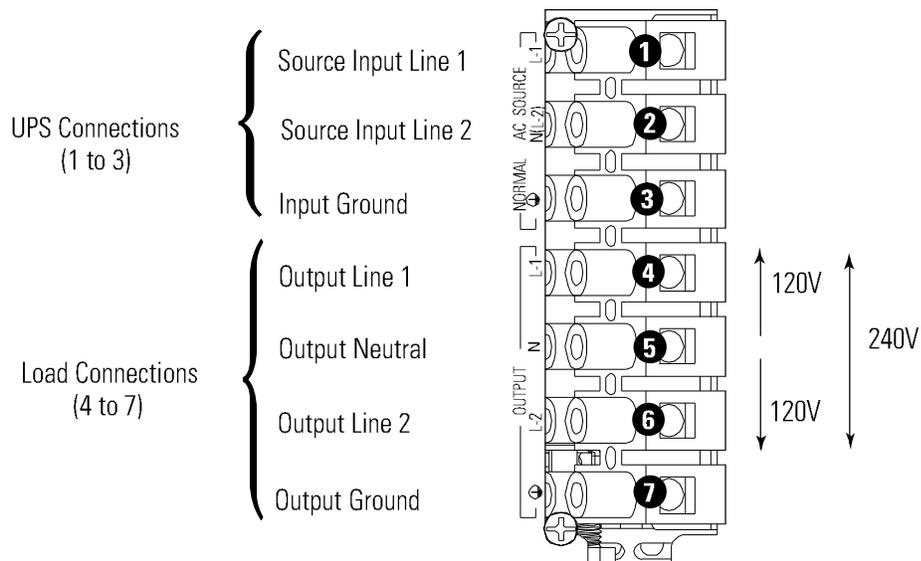

Figure 10. 9PXPPDM2 I/O Terminal Block
- 9.** On the 9PXPPDM2 terminal block, wire the UPS connections (terminals 1–3) and attach the cable gland to the panel (see Figure 10 and Table 4).